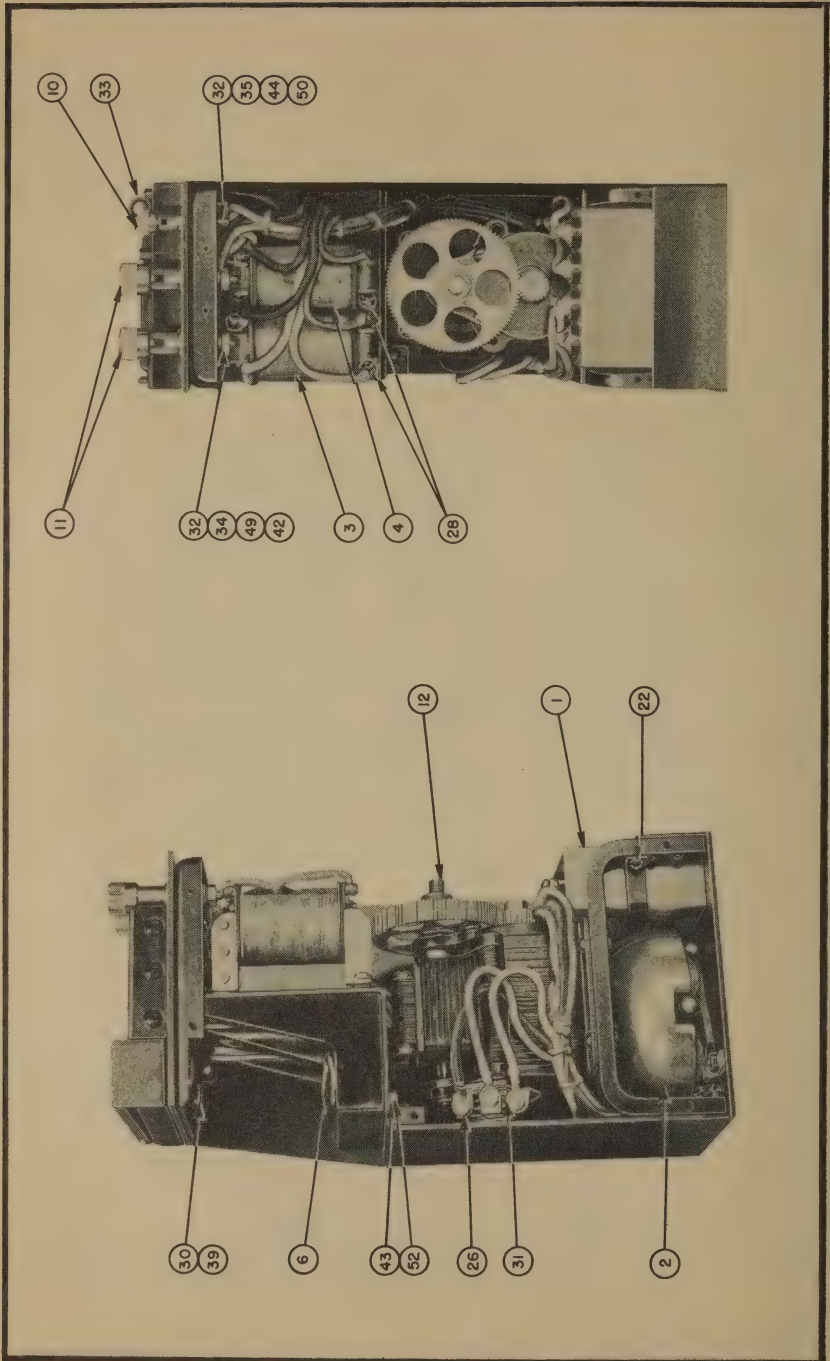
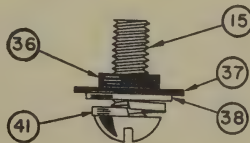

FIG. 5a — Two Views of Telephone with Front Wall, Side Wall and Crank Removed (model equipped with Generator GN-38-A).
FIGURE 6 — Sketch of Screw Assembly for Generator
d. Generator GN-38-A or GN-38-B—(Item 12).—To change generators, remove body assembly from leather case as directed in paragraph *a.* Remove crank (9), disc (7), side wall, front wall and bottom plate as directed in paragraph *c.* Loosen three terminal screws (26) on back of generator (See figs. 5a and 5b). Remove wires. Take out four screws (15), under base plate. Push capacitor down to allow clearance for removal of generator; pull generator out over capacitor. Slide new generator in place. **BE SURE THAT INSULATING PLATE BETWEEN GENERATOR AND BASE PLATE IS IN PLACE.** Line up holes in base plate, insulating plate and bottom of generator. Assemble washers on screws (15) as follows: lockwasher (41), washer (38), insulating washer (37), insulating bushing (36), (See figure 6.) Screw this assembly through base